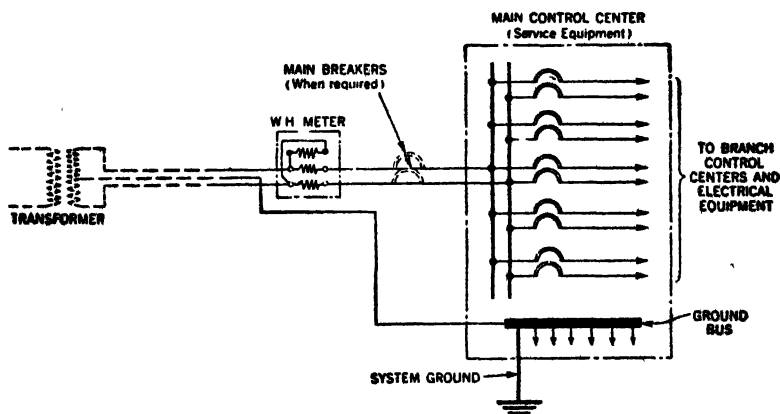

FIG. 5,225-6.—Showing common sequence of service entrance.
**Sequence.**—A commonly accepted sequence arrangement is shown in fig. 5,225-6. The arrangement is permitted by the *National Electrical Code* where the supply system is *a.c.* and the voltage between conductors does not exceed 300.